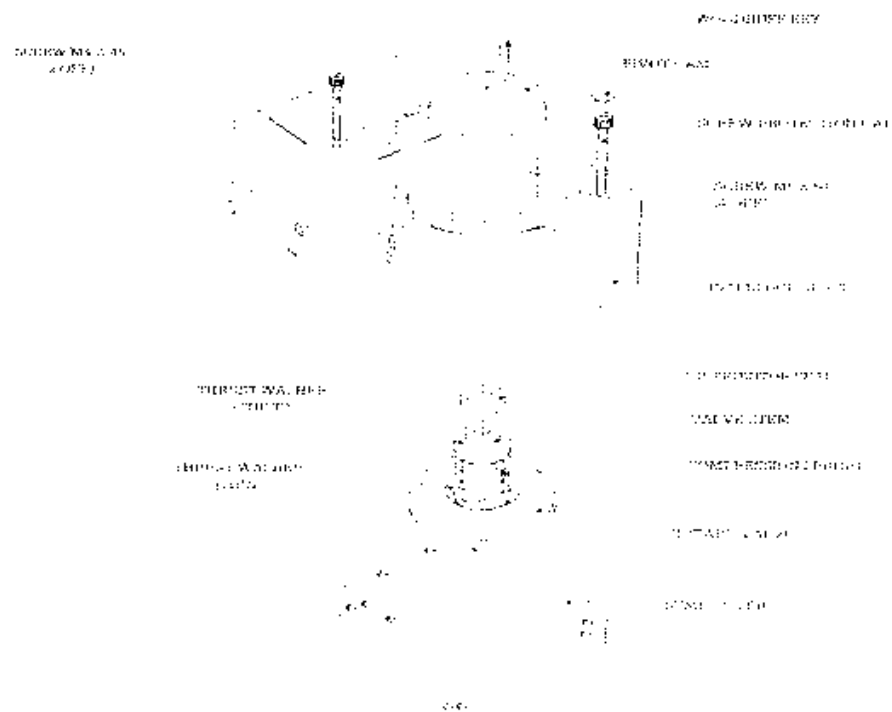

Figure 4 Rotary Valve
2.6 REMOVING/REPLACING A ROTARY (Figure 3, Page 9 and Figures 4 & 5, Page 10)